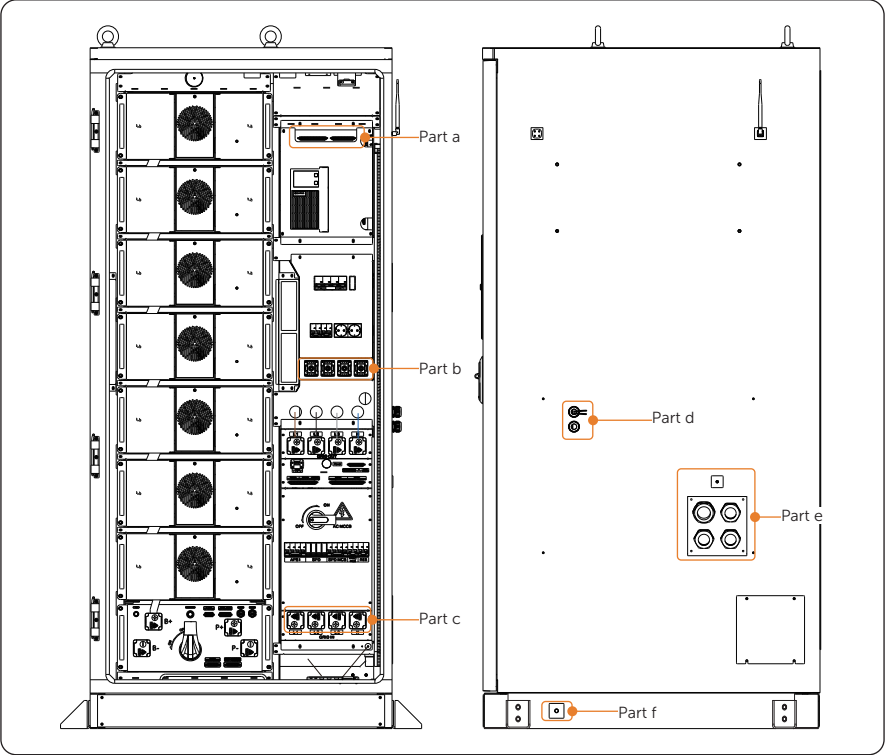

Figure 7-1 Parts that need wiring
- Before wiring, operators are required to learn which parts need to be conducted wiring. For details, please refer to Figure 7-1.
The **Part a** in “Figure 7-1 Parts that need wiring”, the reserved wire interfaces, is reserved for users to connect to other devices.